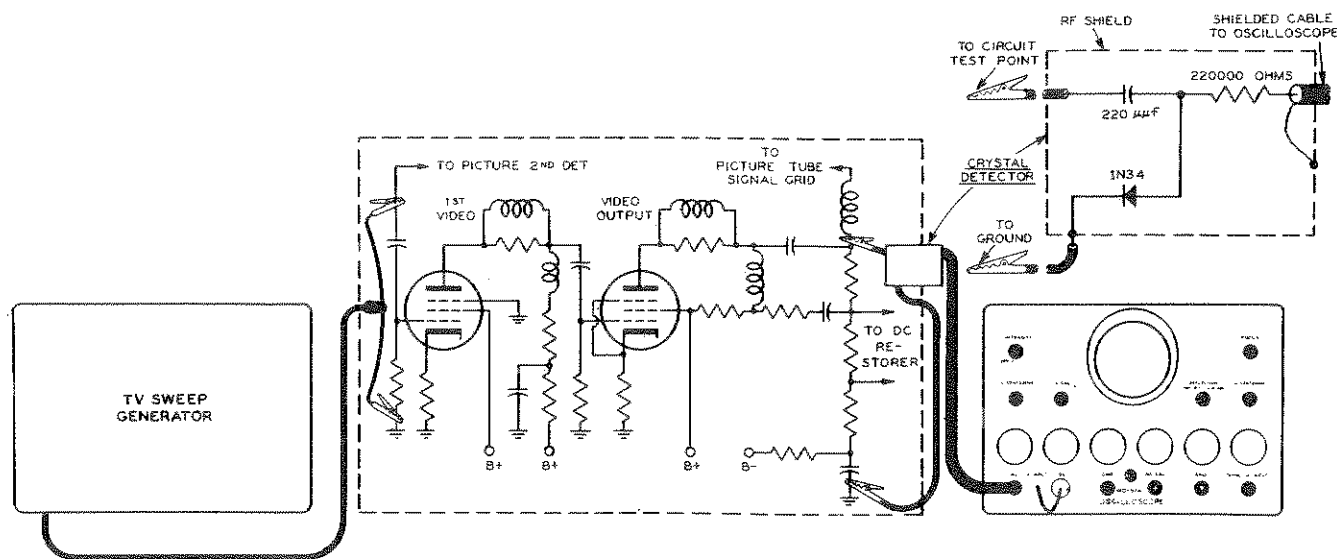

Figure 9. Setup for Checking Video-Amplifier Response
Note in Figure 9 that a crystal detector is used in this application. The purpose of the detector is to rectify the output of the sweep generator applied to the video amplifier so that it can be properly viewed on the oscilloscope screen. In order to minimize circuit loading, use a detector of approximately the same input capacitance as the input capacitance of the kinescope grid. The schematic diagram of a suitable crystal detector is illustrated in Figure 9.
1. Set up the equipment as shown in Figure 9. Set the SYNC/H SEL to "LINE" position. A pattern similar to that shown in Figure 10A should be obtained.